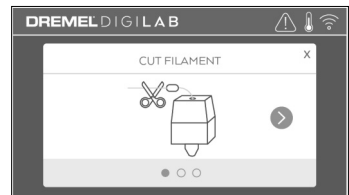

FIG. 1
4. Remove Spool door by rotating it counter clockwise, see figure 1. Remove existing spool if one is present.
5. Thread tip of new filament through guide tube, place spool on spool holder, replace spool door by aligning locking tabs and rotating clockwise, see figure 1.